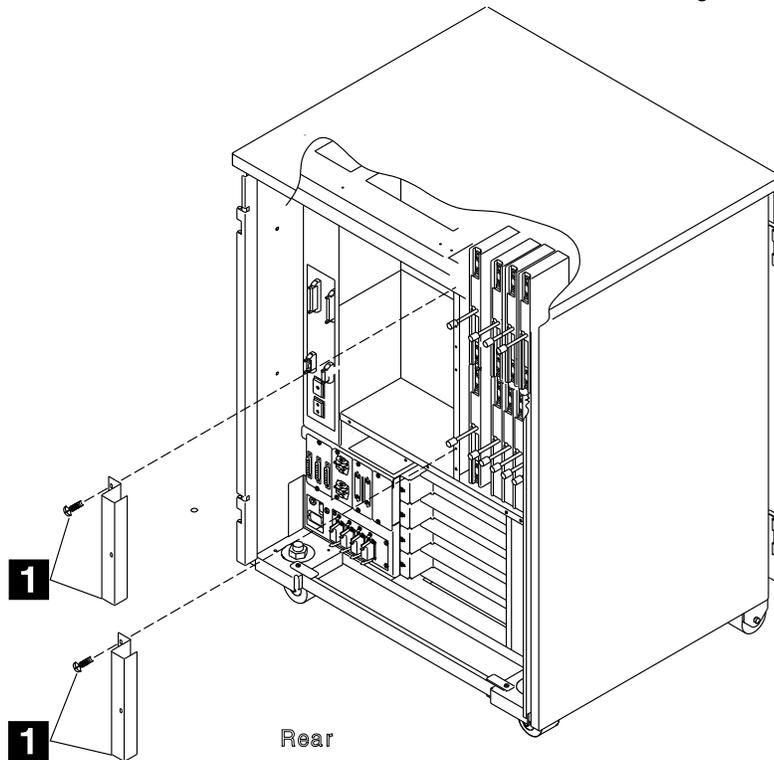

Figure 4-120. SMUX Cover
6. Remove the SMUX covers. Refer to Figure 4-120 (four screws must be removed **1**).
13. Refer to Figure 4-120 on page 4-88.